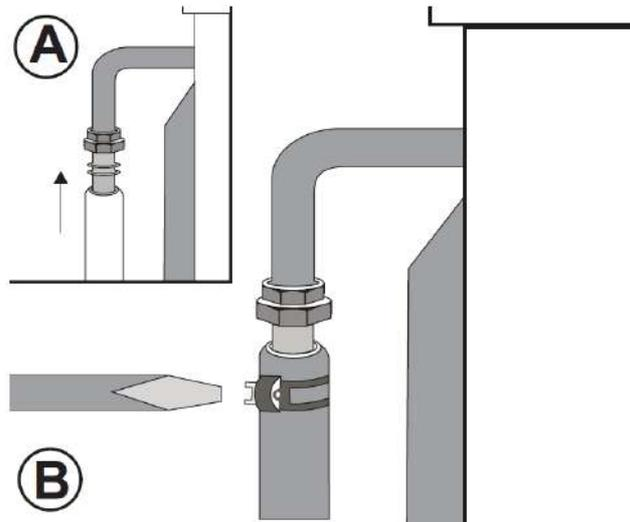

Figure 7
To ensure higher safety, it is recommended to carry out the connection to the gas system using rigid pipes (A) (ex. Copper) or using flexible stainless steel pipe to avoid any stretch of the unit (B) (Fig. 7)